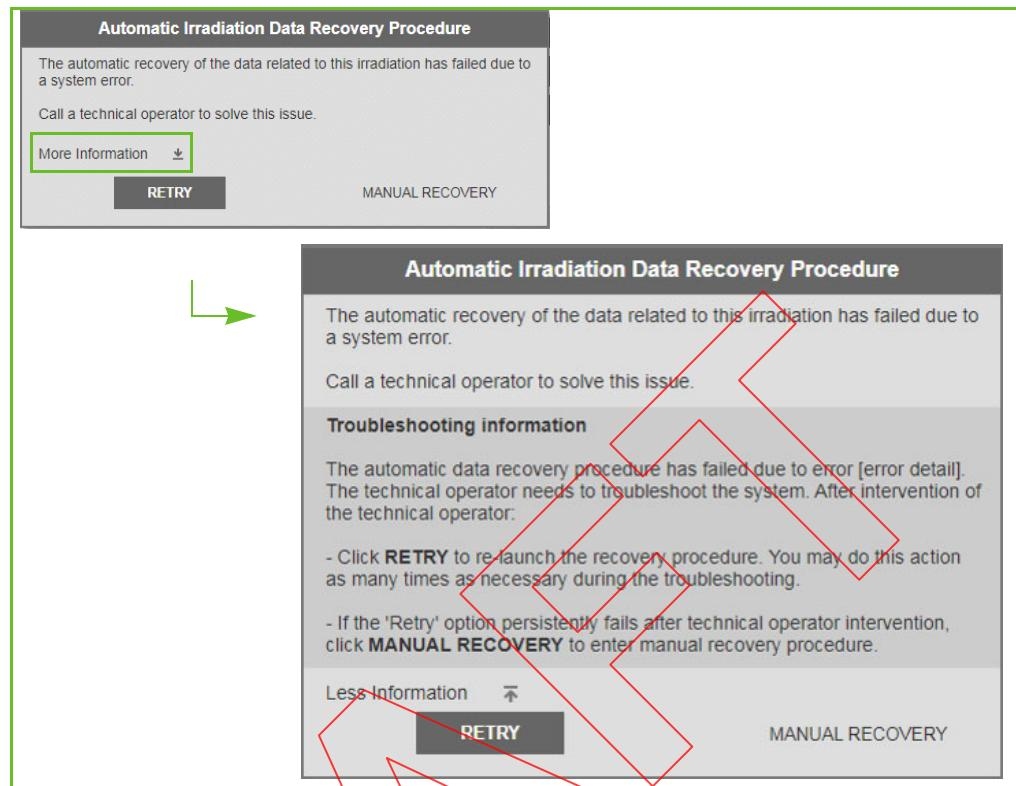

Figure 41-5. Recovery after termination by PTS - Automatic data recovery information (online)
The automatic process can fail for various reasons, including software crashes, communication faults, hardware problems, etc. In such case, the User shall ask the IBA Operator to investigate the cause of the automatic process failure and to attempt to troubleshoot it (Figure 41-5).
1. In case the Automatic process fails, a new popup appears giving you the possibility to **Retry** or to attempt the **Manual Recovery** (Figure 41-6a). You can click on **More Information** to know more (Figure 41-5).